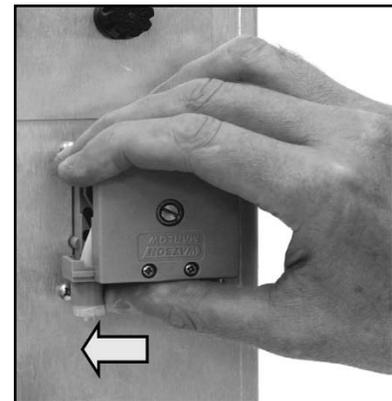

FIGURE 9-8.
4. Using your thumb as shown in Figure 9-8, push the tubing fitting straight outward until the fitting slides out of the socket. Repeat the process for the other fitting.